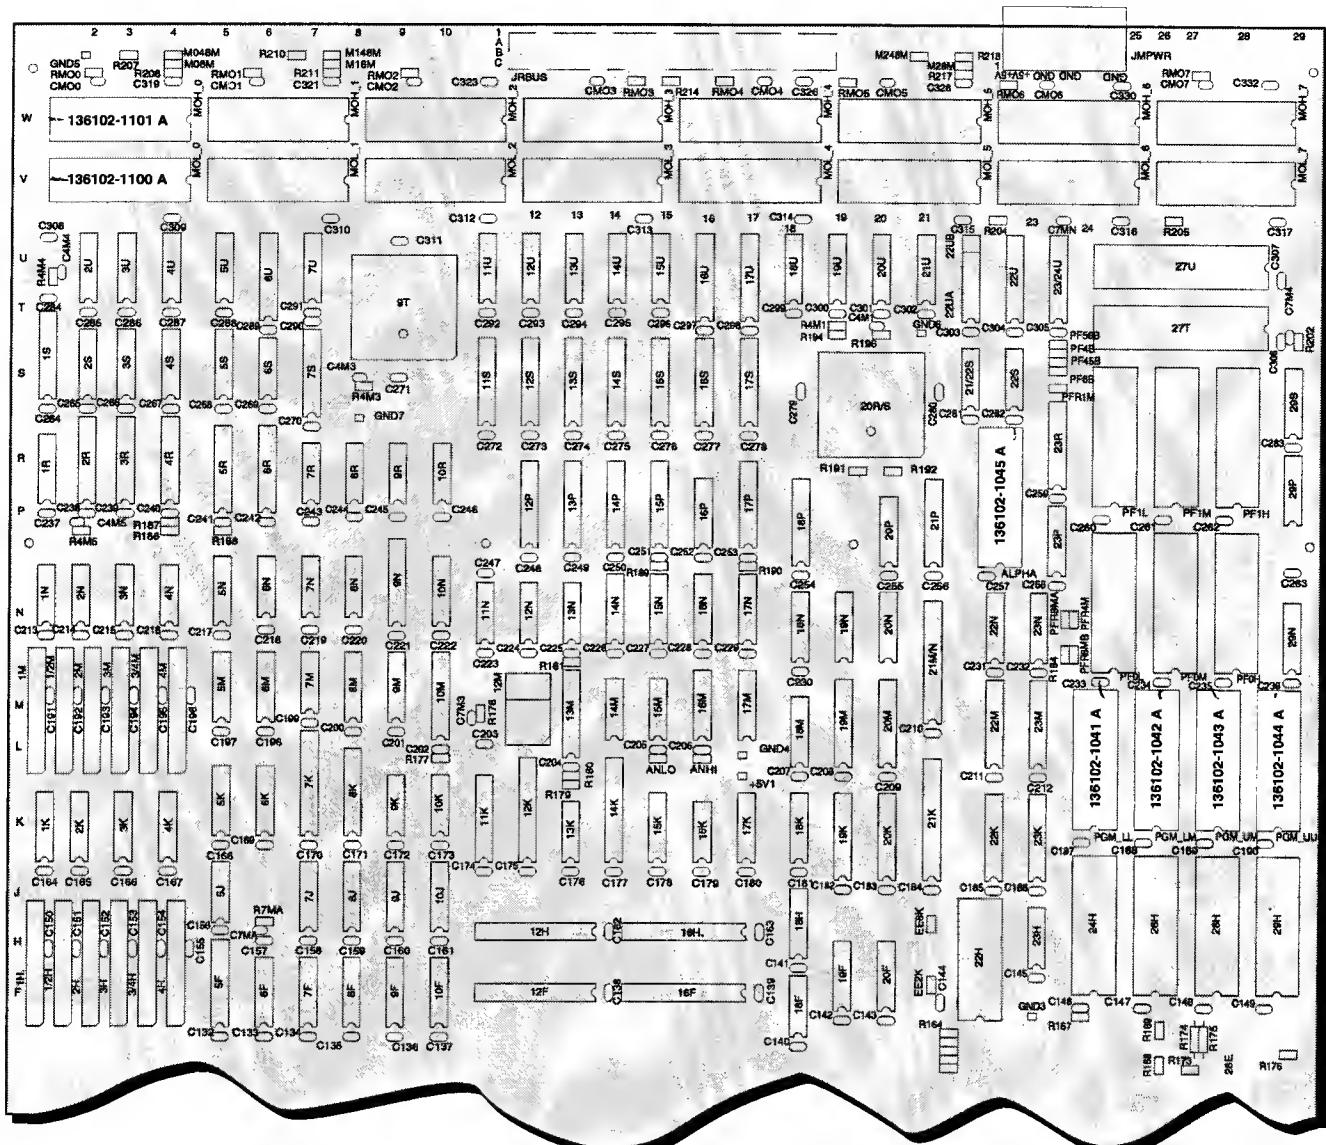

Figure 1 - EPROMs to be Replaced on the Game (GT) Printed-Circuit Board
3. Refer to Figures 1 and 2 of this supplement: each chip to be replaced is colored white. Locate each EPROM to be replaced and remove each with a chip extractor tool (if necessary, you can use a flat-head screwdriver).